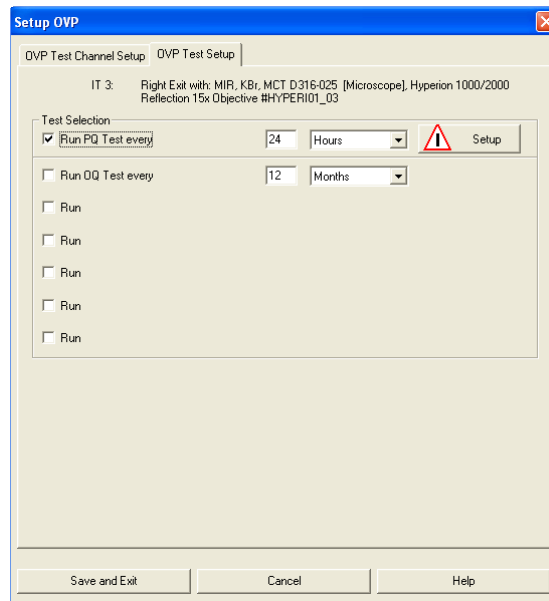

Figure 33: Specifying the Validity Period for the PQ Test
- Activate the *Run PQ Test every* check box and specify the validity period for the PQ test (i.e. when the specified validity period is over the PQ test needs to be repeated). See figure 33.